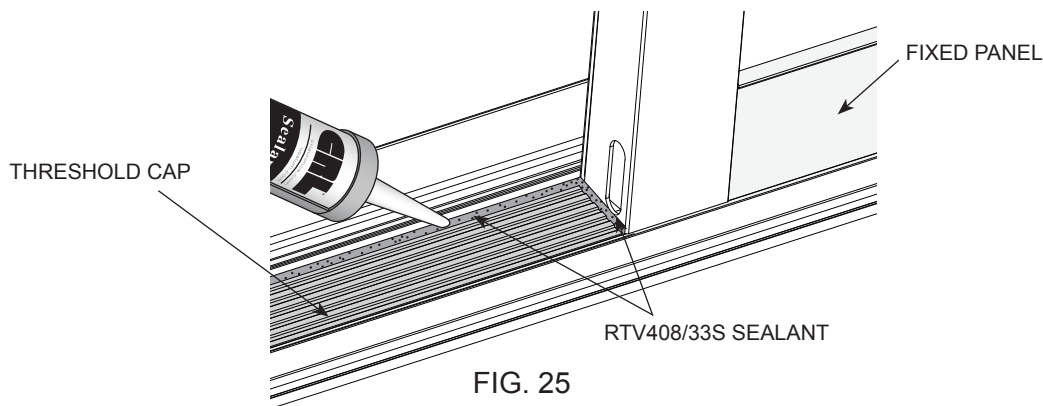

FIG. 25
3. Apply **Cat. No. RTV408** or **Cat. No. 33S** sealant around the perimeter of the threshold cap. (FIG. 25)
- 7. Install threshold cap and seal as shown in "FIG. 25" on page 13.